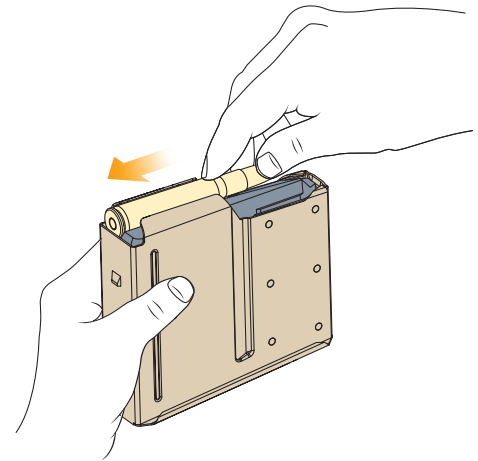

Fig 4-3
- Push the round fully rearwards (see Fig 4-3).